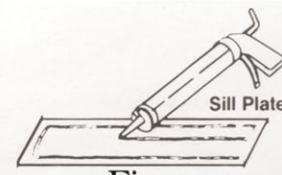

Figure 4.
4. Lay a bead of latex adhesive around the perimeter of the sill plate area, 3/4" from all four edges, with an additional strip lengthwise along the middle. Press the cut window sill firmly in place (Figure 4)